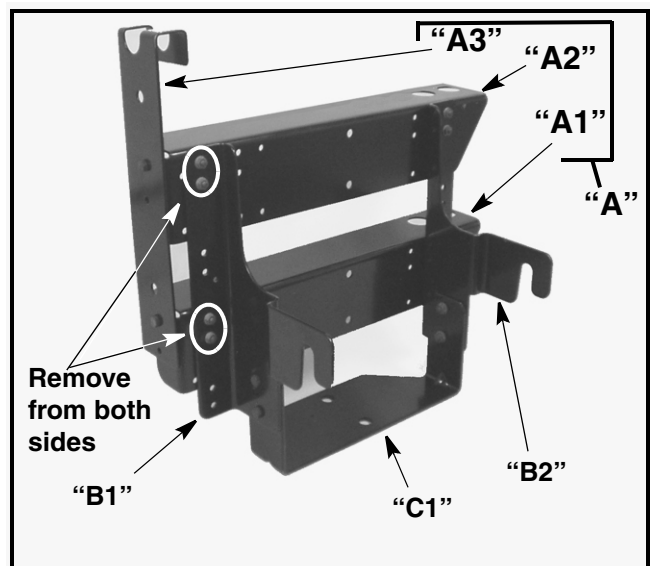

FIGURE 3
3. Refer to Figure 3. Remove parts "A1", "A2" and "A3" as a sub-assembly "A". Using a 7/16" socket and ratchet and 7/16" box wrench remove the eight (8) 1/4"-20 screws and hex lock nuts indicated in Figure 3, from the catcher support brackets "B1" and "B2". Set the "A" sub-assembly aside.
4. Using a 1/2" socket and ratchet and 1/2" box wrench, remove the four (4) 5/16"-18 screws and 5/16" securing the cross support bracket "C1" to the two (2) the catcher support brackets "B1" and "B2".